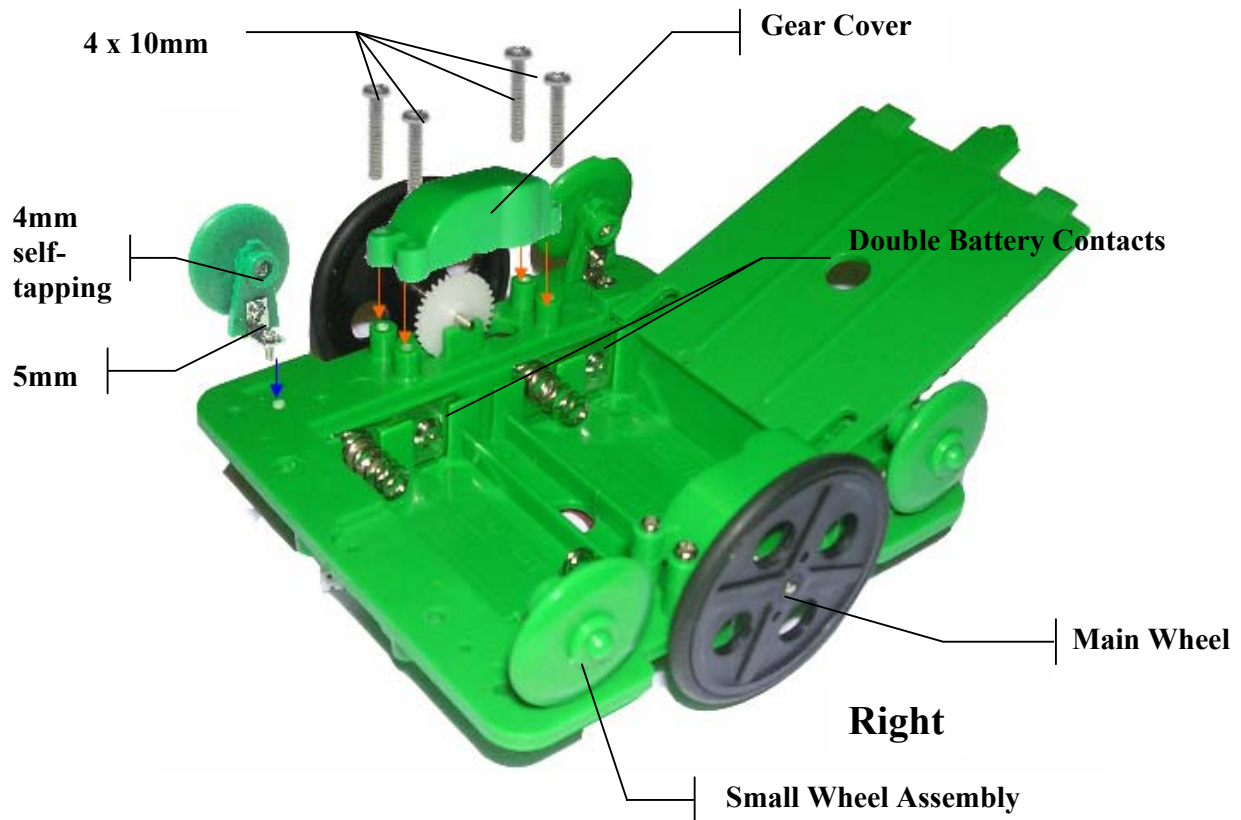

Figure 9: the eRacer_16m mechanical base
4. Fit the four assembled wheels to the eRacer_16m base with the wheels facing outside as shown in Figure 9.
Important note: If the battery contacts come assembled check that these are fitted on the left side as shown in Figure 9. The two double contacts are on the left when the base is positioned as shown in Figure 9. If not, carefully take out all the battery contacts and change them over as shown.
5. Position the eRacer_16m base upside down in the **orientation** shown in Figure 9 below (**the side with the two notches is the *front*!**). Open the battery compartment cover by sliding it. The cover is **not** detachable!
11. Place each wheel into position and fit the gear covers with the 10mm screws. *The “bulging” on the gear covers has to face each other (see Figure 9).* (Note that there is a left and right hand gear cover).